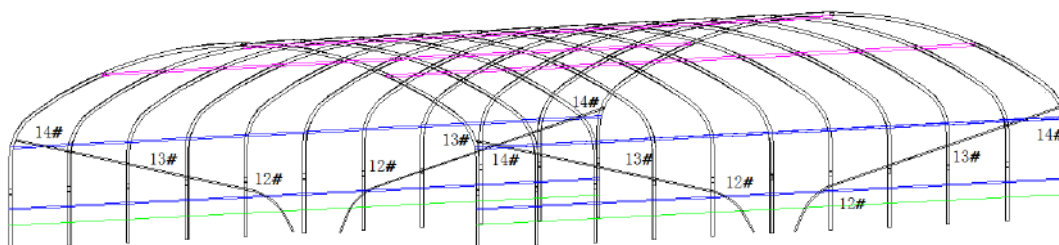

Figure 13
- Firmly insert the tube (No. 12) into the ground and secure it using U-shaped belts (No. 21), as shown in Figure 13 & 14.